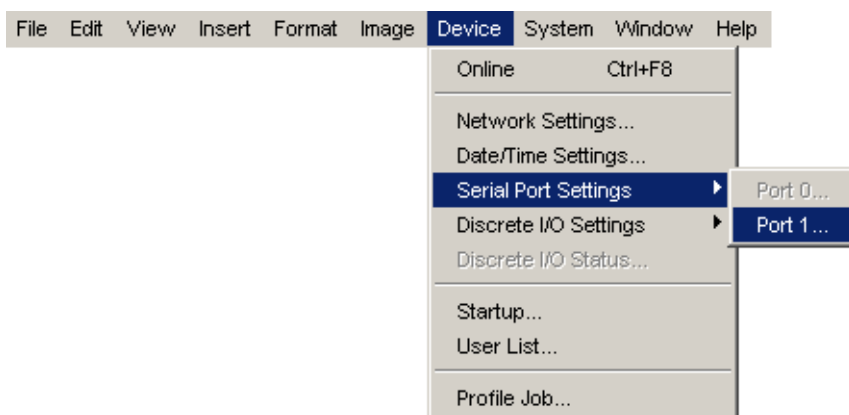

Figure 2-9: Accessing the Serial Port Settings (In-Sight Explorer)
1. From the Device menu (Figure 2-9), select the Serial Port Settings submenu. Select Port 1.